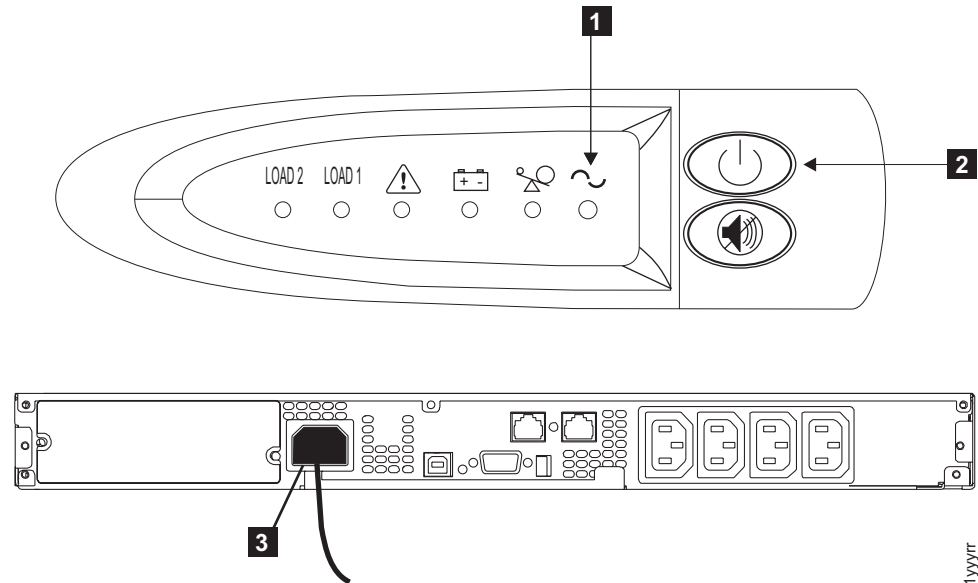

Figure 199. Front and back panels for the 2145 UPS-1U
2. Press and hold the on/off button **2** until the power light **1** is extinguished (approximately five seconds). The 2145 UPS-1U enters standby mode, with all indicators off. See Figure 199 for an illustration of the front and rear view of the 2145 UPS-1U.